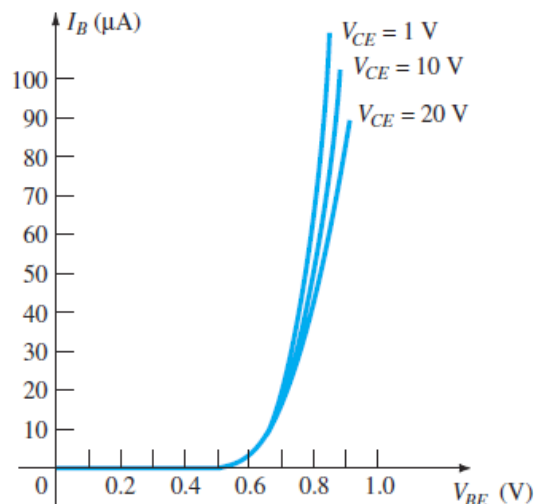

Fig 14 Input characteristics for CE mode
- Input characteristics:** A plot of the variation of i/p base current I_B with variation in the EB voltage V_{BE} (i/p) for different values of collector emitter voltage V_{CE} (o/p) is the i/p characteristics as seen in Fig 14. To obtain the i/p characteristics, V_{CE} is kept constant, V_{BE} is varied and value of I_B is recorded. For fixed value of V_{BE} , I_B decreases with increase in V_{CE} . This is due to the fact that with increase in V_{CE} , the depletion region of the reverse bias collector base junction widens, reducing base width.